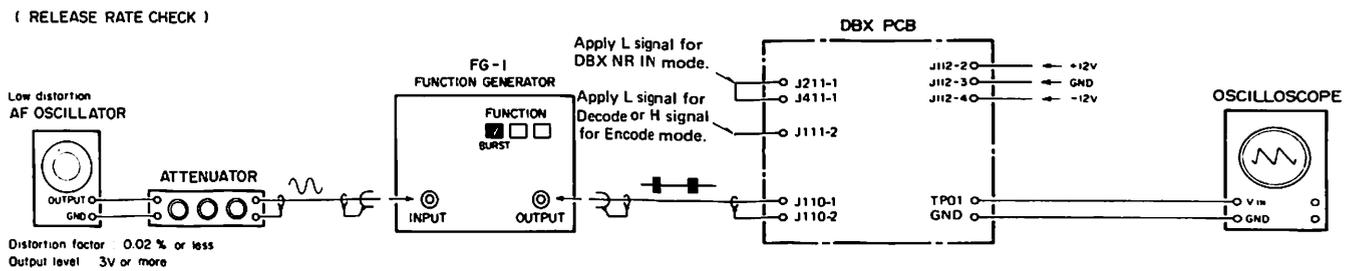

Fig. 1-6-3 Release Rate Check
E. Release Rate Check (Connection: Fig. 1-6-3)